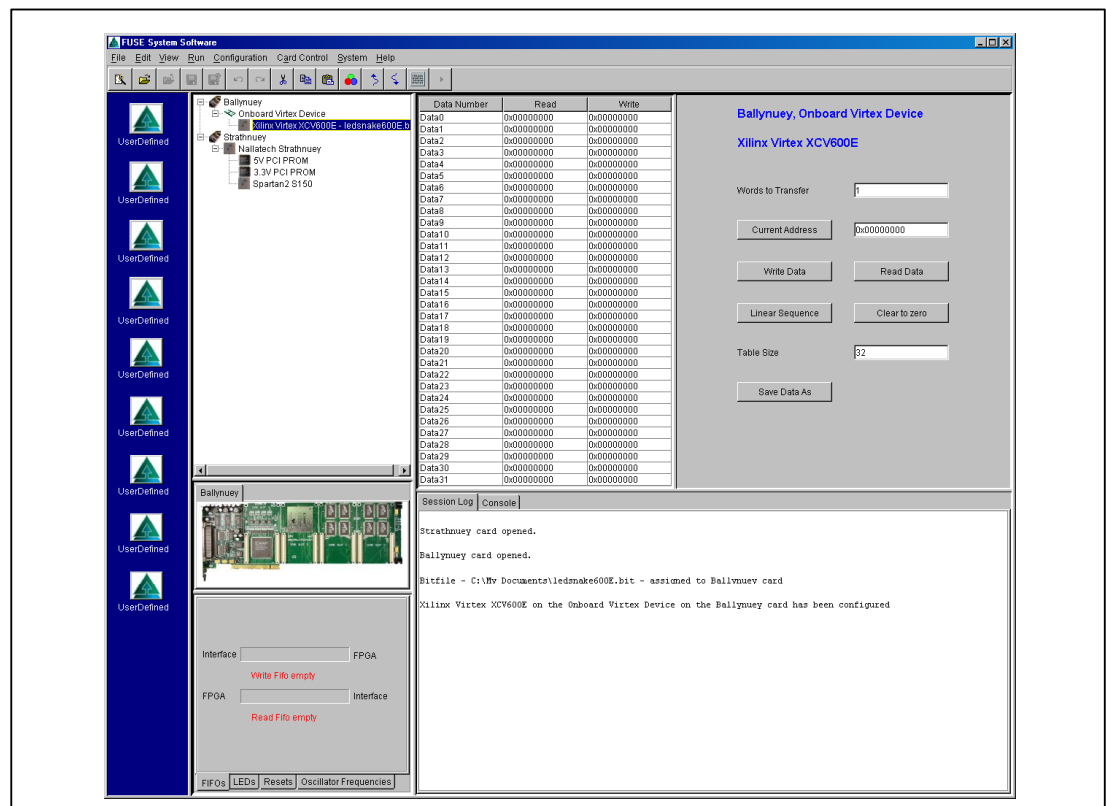

Figure 10: FPGA configured
4. To configure the device select it in the tree display, then in the **Configuration** menu bar click on **Configure Device**. The bitfile is now loaded and the session log updated as shown below in Figure 10: